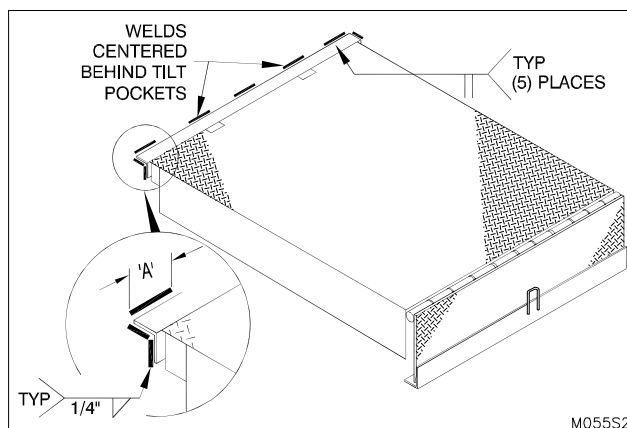

Figure 8: Weld to Rear Curb Angle
17. ___ Weld back angle of dock leveler to rear curb angle as shown in "Figure 8: Weld to Rear Curb Angle" on page 8 using the Welding Reference Information and Welding Reference Charts as a guide.
15. ___ Complete welding the back angle of the dock leveler to the rear pit curb angle as shown in "Figure 8: Weld to Rear Curb Angle" on page 8.